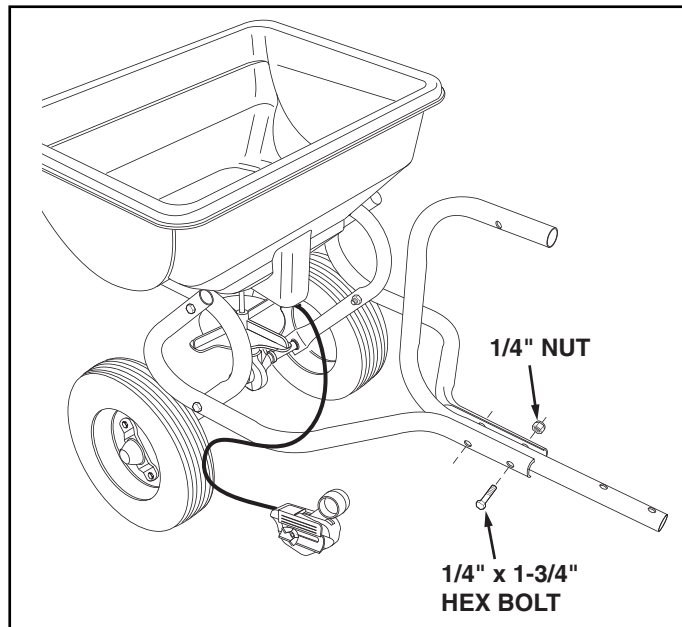

FIGURE 2
3. Assemble the Hitch Control Tube between the Hitch Tubes using two 1/4" x 1-3/4" hex bolts and 1/4" nuts. **Tighten all bolts and nuts.** See figure 2.